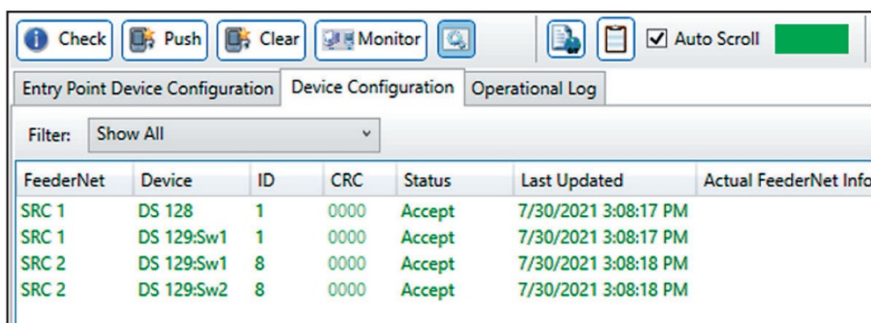

Figure 15. The Device Configuration tab setpoint files accepted.
**STEP 4.** Go to the Device Configuration tab and verify all devices have accepted their setpoint files. See Figure 15.